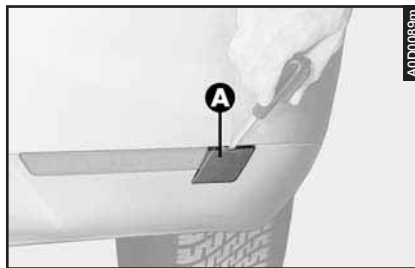

fig. 98
– Remove the cover (**A-fig. 98**) snap-fitted on the rear bumper as follows: